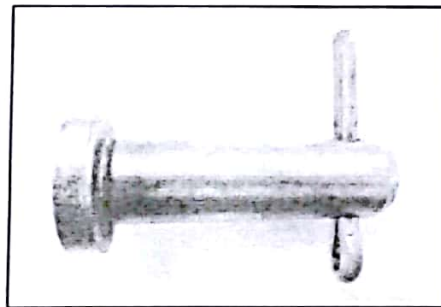
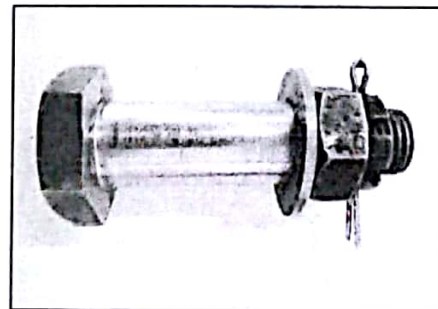

Figure-2 (Existing)
Figure-3 (Modified)
4.0 **Modified arrangement:** In place of slack adjuster pin with split cotter pin as shown in Figure -2, Hex. head bolt with plain washer, castle nut and split pin to be provided as shown in Figure-3: